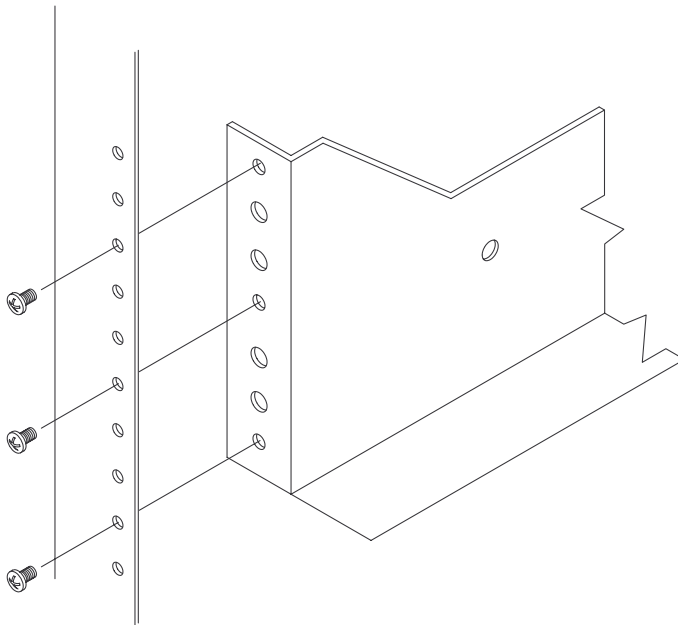

FIGURE 5-6 Removing the Mounting Screws at the Front of Cabinet
1. **Remove the three mounting screws from the front of a mounting rail (FIGURE 5-6).**